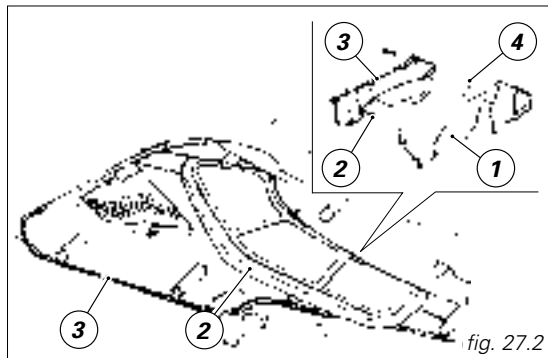

fig. 27.2
Remove the filter (2, fig. 27.2) from its seat on the inner cover (3).
Install the filter properly into its seat on the inner cover (fig. 27.2) and refit all the parts you have removed.